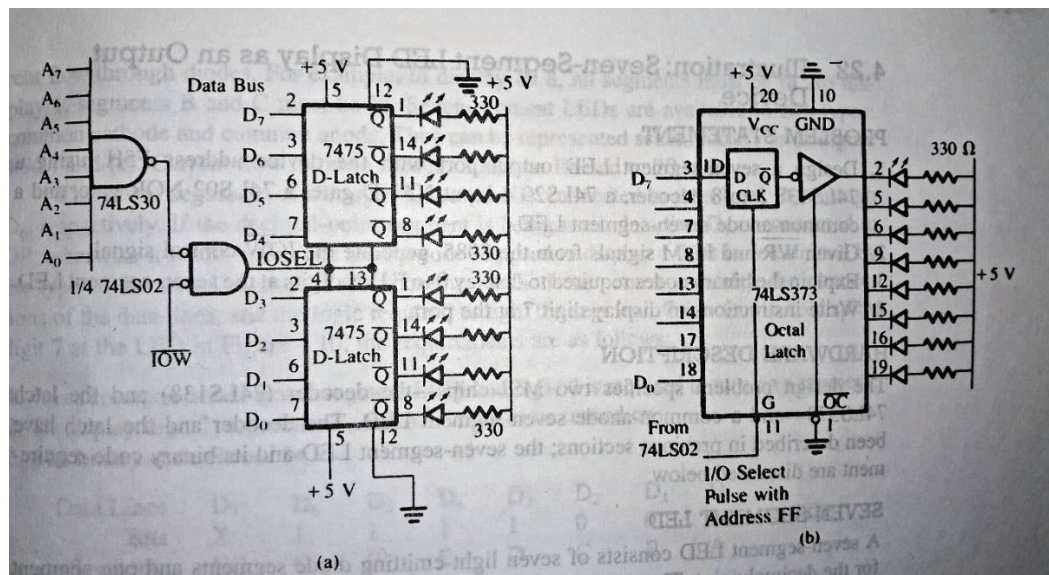

Figure 4.8 :- Interfacing LED Output Port Using the 7475 D-Latch (a) and Using the 74LS373 Octal D-Type Latch (b)
Figure 4.8 uses the 74LS373 octal latch as an interfacing device, and both circuit(a) and (b) are functionally similar. The 74LS373 includes D-latches (flip-flops) followed by tri-state buffers. This device has two control signals: Enable (G) to clock data in the flip-flops and Output Control (OC) to enable the buffers. In this circuit, the 74LS373 is used as a latch; therefore the tri-state buffers are enabled by grounding the OC signal.